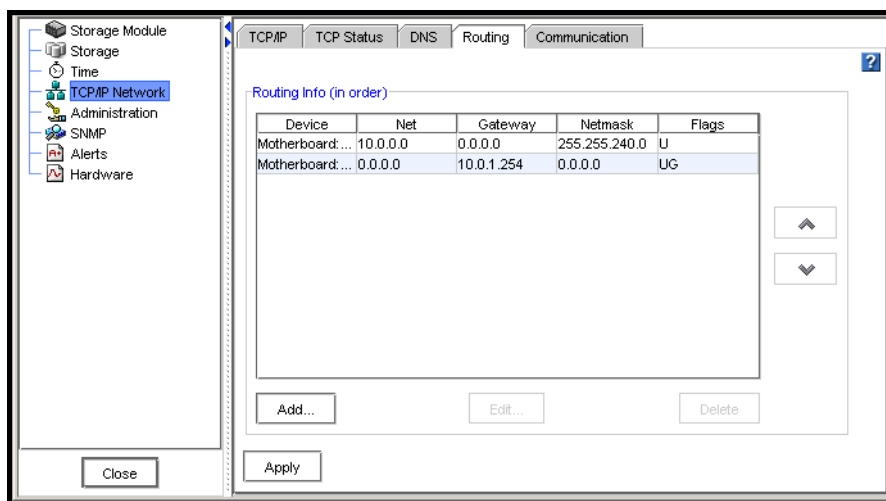

Figure 69. Adding Network Routing Information
- Click the Routing tab to bring it to the front, shown in Figure 69.